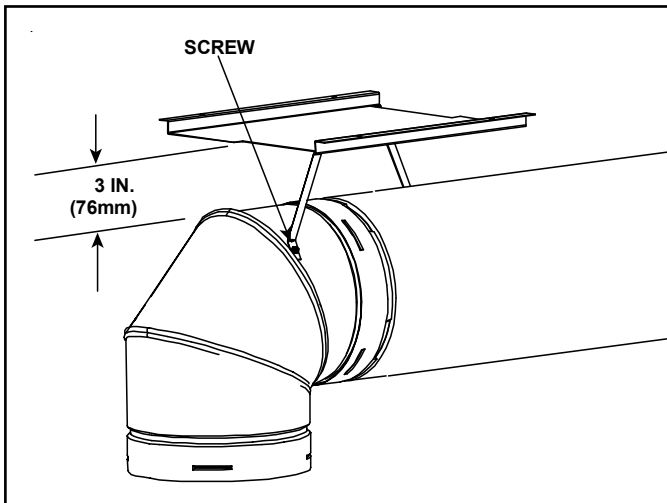

Figure 6.4 Elbow Heat Shield Installed
- If the combustible materials are not in place at the time of install the elbow heat shield may be screwed to the exhaust pipe. See Figure 6.4. Cut the tabs as shown and bend down. Secure the heat shield to the pipe maintaining 3" to 4" between the pipe and shield.
- 90° elbows may be installed and rotated to any point around the preceding component's vertical axis. If an elbow does not end up in a locked position with the preceding component, attach with a minimum of two (2) sheet metal screws.